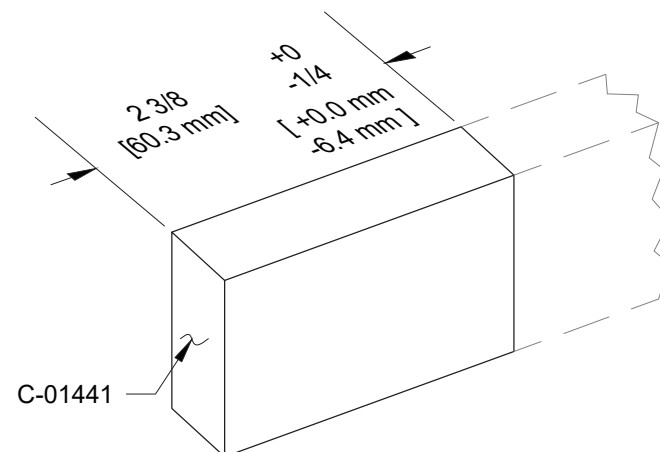

FIGURE 4: CANOPY FRAME ALIGNMENT BLOCK
Step 6: Cut four C-01441 Canopy Frame Alignment Blocks from the part provided. See Figure 4.